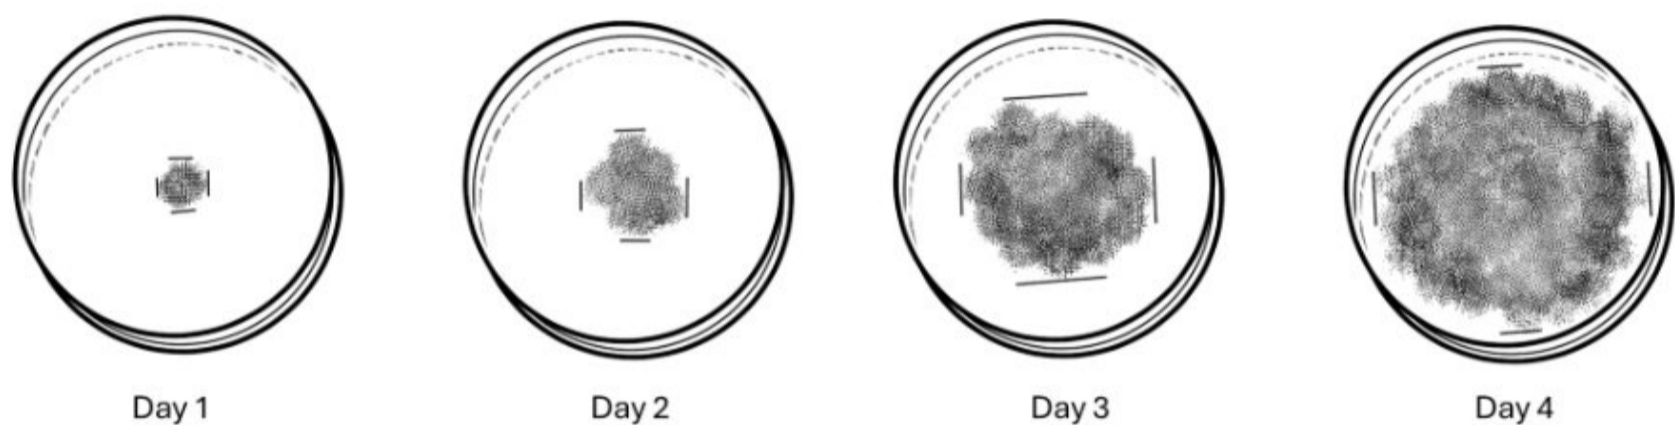

Figure 4.2 Image by Sara Ramos-Sepulveda
4. Measure the fungal growth every day, marking the mycelial growth with a marker on the underside of the petri plate (Figure 4.2):